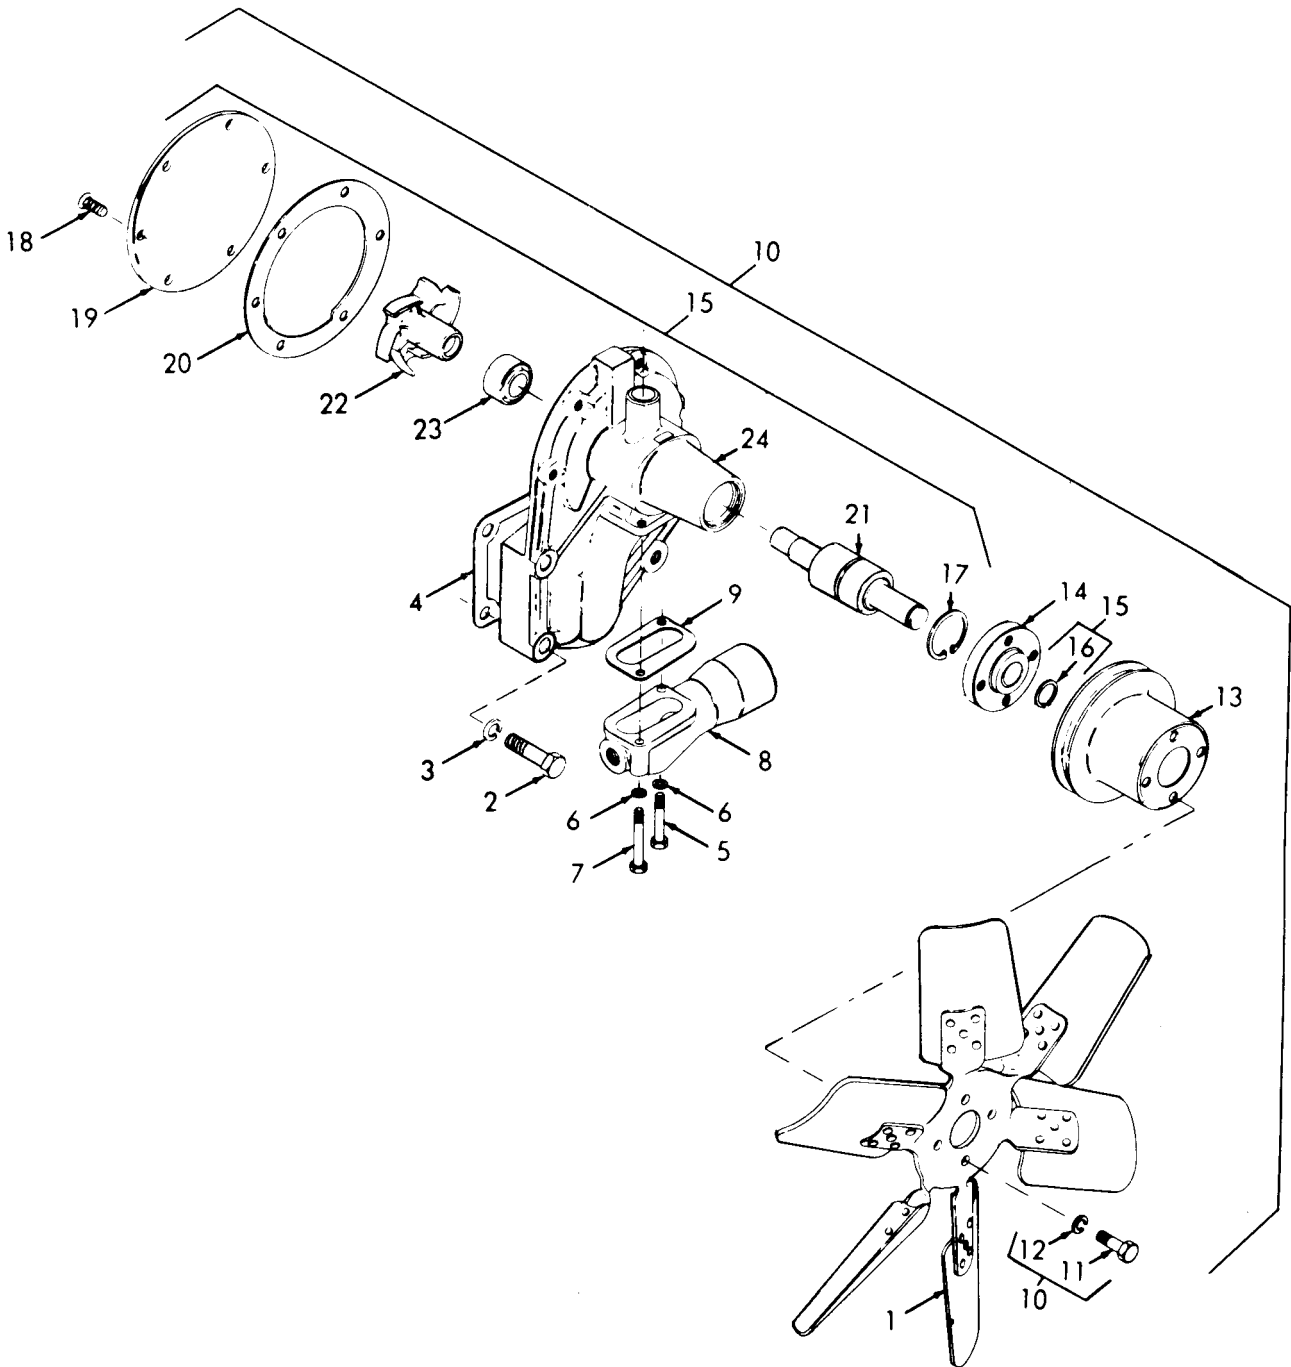

Figure 9-3. Fan and Water Pump Assembly.
- (1) Loosen alternator mounting hardware.
- (2) Rotate alternator until firm pressure on V-belt midway between alternator pulley and water pump pulley will depress it approximately 1/2-inch.
- (3) Tighten alternator mounting hardware.
**9-6. FAN AND WATER PUMP ASSEMBLY.**a. Removal (Refer to figure 9-3).
- (1) Drain radiator.
- (2) Remove radiator hoses from water pump.
- (3) Remove cooling fan.
- (4) Remove capscrews and lockwashers to remove water pump and gasket.
- (5) Do not remove fan pulley unless inspection reveals damage.
b. Disassembly (Refer to figure 9-3).
- (1) Using a suitable puller, remove pulley hub.
- (2) Remove retaining ring (17).
- (3) Remove screws (2 and 18), lockwasher (3), and screw (5) to remove cover plate (19) and gasket (20).
- (4) Support front end of pump in bed of arbor press and press shaft bearing and flinger assembly (21) from impeller (22), seal assembly (23), and pump body (24).
## LEGEND FOR FIGURE 9-3:
- (1) Clean all parts in cleaning solvent and dry thoroughly.
- (2) Visually inspect cooling fan pulley for cracks, corrosion, and excessive wear.
- (3) Check pulley hub for cracks, corrosion, and other damage.
- (4) Inspect cover plate for cracks, corrosion, and rub marks on inner face.
- (5) Inspect pump body for cracks, breaks, and excessive wear.
- (6) Inspect shaft and bearing assembly for deep water patterns, scores, pitting and other damage. Rotate bearing on shaft. If bearing is binding or reels rough, the shaft and bearing assembly must be replaced.
- (7) Check impeller for erosion, cracking, and other damage.
- (8) Replace any damaged or defective parts.
d. Assembly (Refer to figure 9-3).